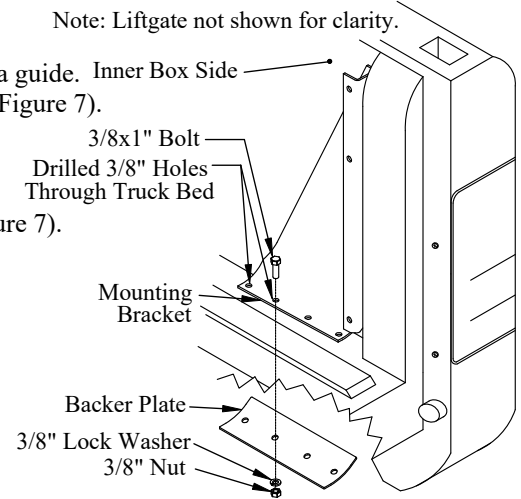

Figure 7: Mounting bracket and backer plate.
Choose two of the four holes provided with no obstructions on the underside (Figure 7).
- (2) 3/8"x1" hex head bolts on the top-side (Figure 7).
- (1) backer plate, (2) lock washers, and (2) hex nuts on the under-side (Figure 7).